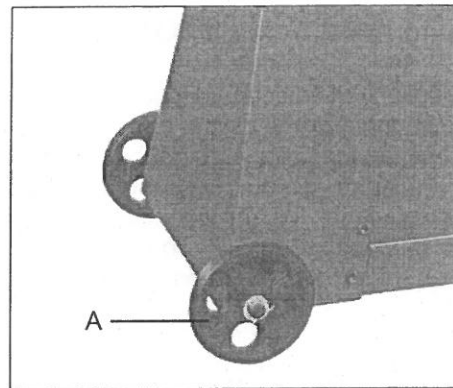

Fig. 1
3. Slide wheels (A, Fig. 1) onto axles and fasten with pins. Bend pins to hold in place.